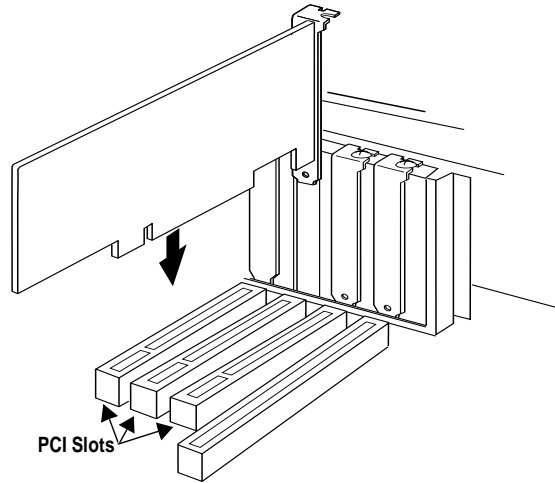

Figure 2-3. Inserting the Host Adapter
- 5 Position the host adapter directly over the PCI slot and insert the end of the board in the card guide. Firmly press the bus connector on the bottom of the host adapter down into the slot, as shown in Figure 2-3. Be sure the metal contacts on the bottom of the host adapter are securely seated in the slot.